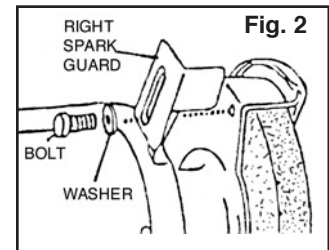

Fig. 2
Select the two spark guards and the two smaller bolts and washers. Install the spark guards to the wheel guards of your grinder as shown in Figure 2. Adjust them to within 1/16" of the grinding wheel.
**Note:** There is a left and right spark guard. Refer to Figure 2 to ensure that you install them correctly.